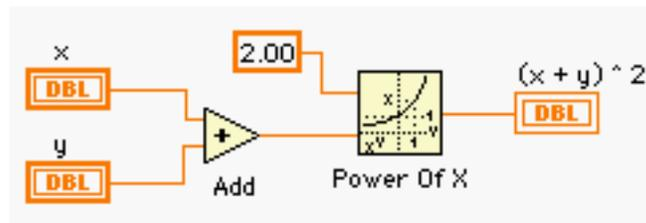

Figure 3.12 Diagram window of a VI which performs the same computation as **First Sub VI.vi**.
There is an alternative way to create sub VIs, and it can be illustrated with the **First Sub VI.vi** which computes $(x+y)^2$ for given x and y . Suppose you have a VI whose diagram is Figure 3.12.
Note that Figure 3.12 performs the same computation as **First Sub VI.vi**. In the previous section, you manually assigned each element to each terminal to complete **First Sub VI.vi**. However, LabVIEW provides an alternative way to create sub VIs instantly. The steps are:
- Step 1 Select the portion from which you would like to create a sub VI. In Figure 3.12, you will select the entire diagram.